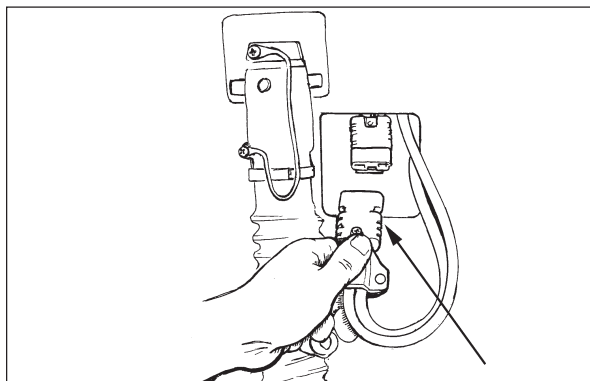

Figure 9
6. Join the connector from the battery pack to the connector on the control panel. See figure 9.